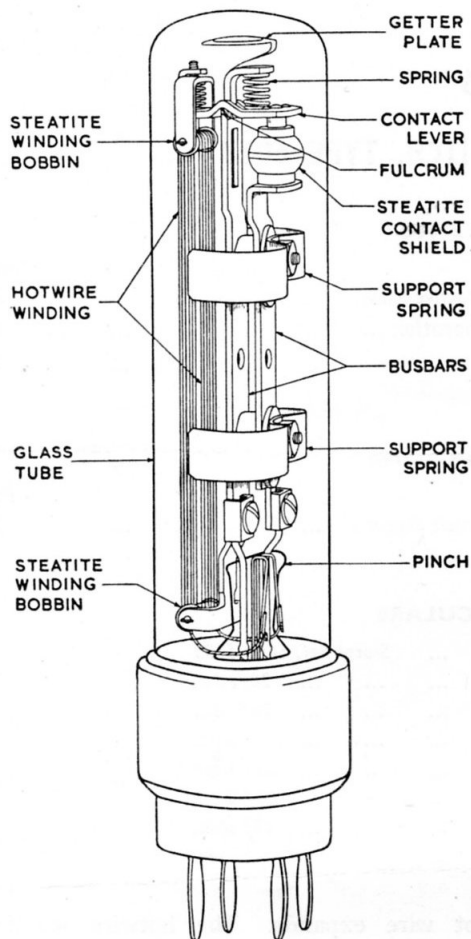
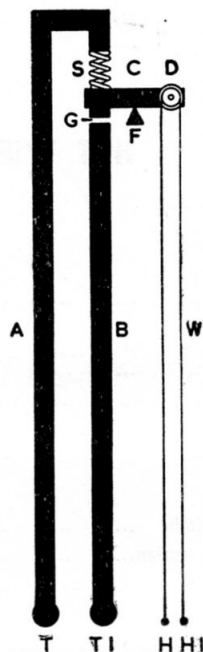

Fig. 1. General view of switch
Fig. 2. Diagram of switch action
3. The switch (*fig. 1*) consists essentially of two busbars with a spring loaded contact lever working between them. This lever is pivoted on a fulcrum and operates when the
6. The operation can best be seen by referring to fig. 2 which is a diagrammatic representation of the switch. T and T1 are terminals of the main circuit it is necessary to control. A and B are the busbars referred to in fig. 1, A terminating in the spring S attached to the lever C. This spring tends to swing the lever about the fixed fulcrum F, closing the gap G. At the other end of the lever C, is the bobbin D, round which passes the resistance wire W, rigidly fixed to the terminals H and H1. By tensioning this wire the spring S is compressed and the gap